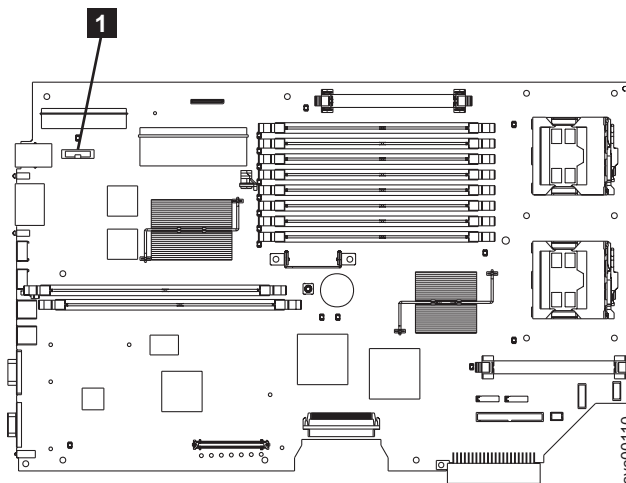

Figure 124. Location of the CMOS battery on the SAN Volume Controller 2145-8F2
1. Insert the new battery in the battery socket **1**. See Figure 124.